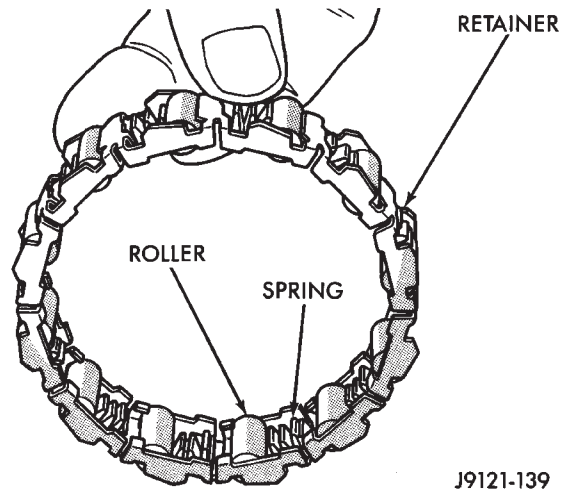

Fig. 115 Overrunning Clutch Rollers, Springs, Retainer
- (1) Assemble clutch rollers and springs in retainer if necessary (Fig. 115).